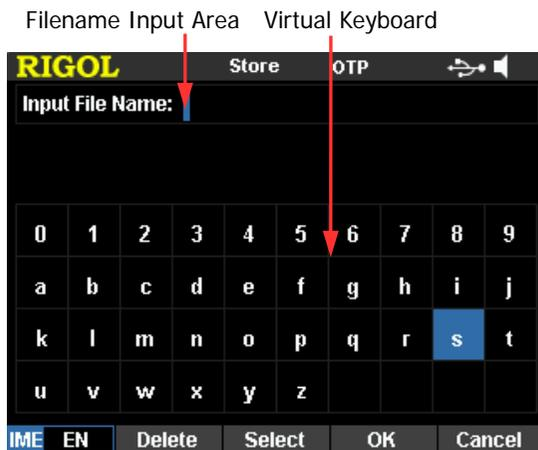
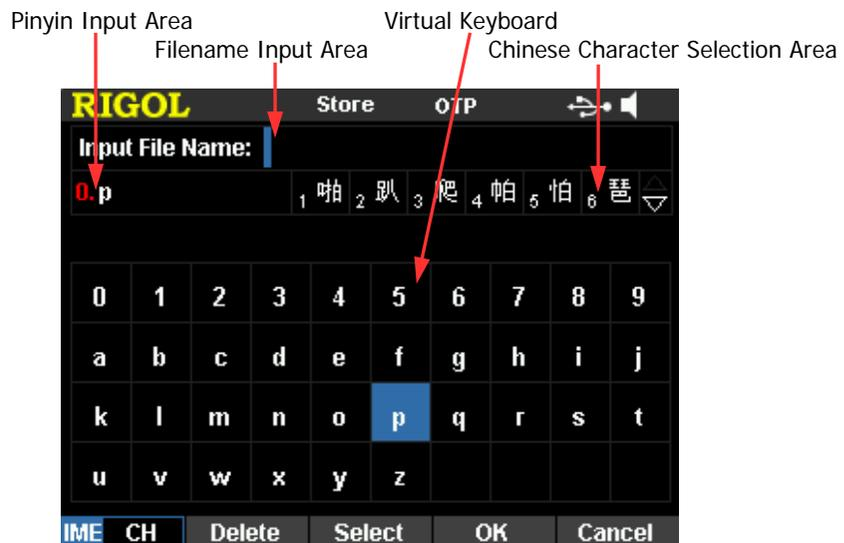

Figure 2-11 Filename Input Interface (English)
Figure 2-12 Filename Input Interface (Chinese)
2. Press **Browser** to switch the cursor to the directory area to select the desired directory. Press **Browser** again to switch the cursor to the file area and select the desired storage directory. Press **Save** to open the filename input interface (Figure 2-11 or Figure 2-12).
Press **IME** to select “CH” or “EN” in the filename input interface (Figure 2-11 or Figure 2-12). Press **.** on the numeric keyboard to switch between English uppercase and lowercase.